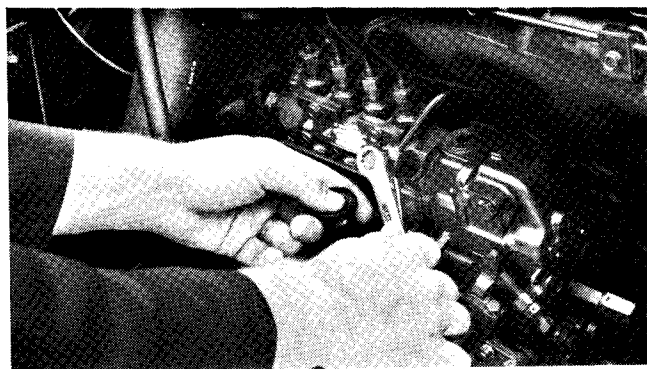

Figure 10
5. Loosen air vent plug on injection pump approximately 1-1/2 turns (Fig. 10). Operate priming pump until solid stream of fuel flows from vent hole, then tighten vent plug.